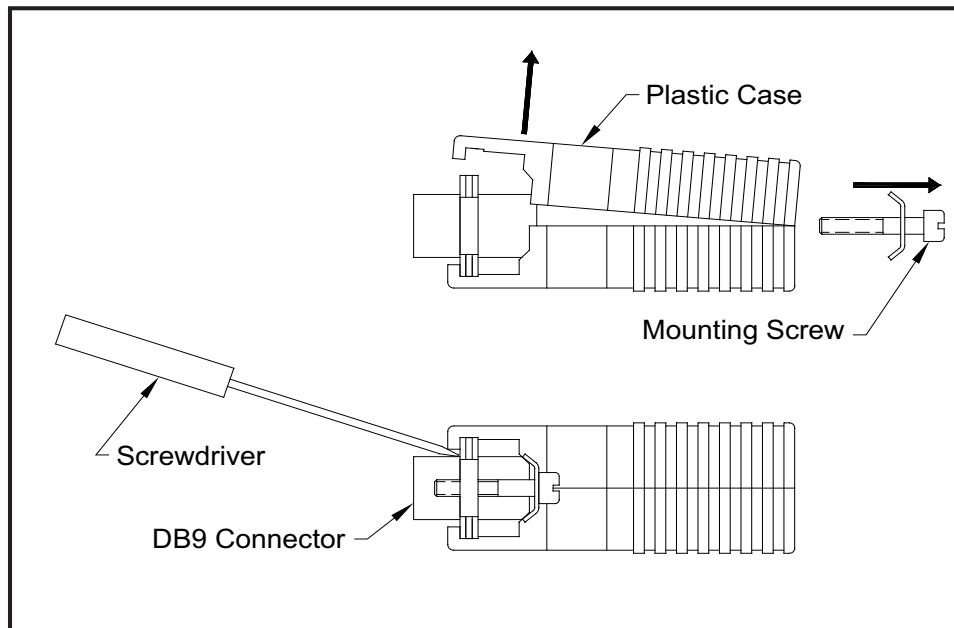

Figure 10: Opening the Converter Case
5. Use a small screwdriver to pry open the *plastic case* of the serial interface converter, as shown in Figure 10 on page 80.